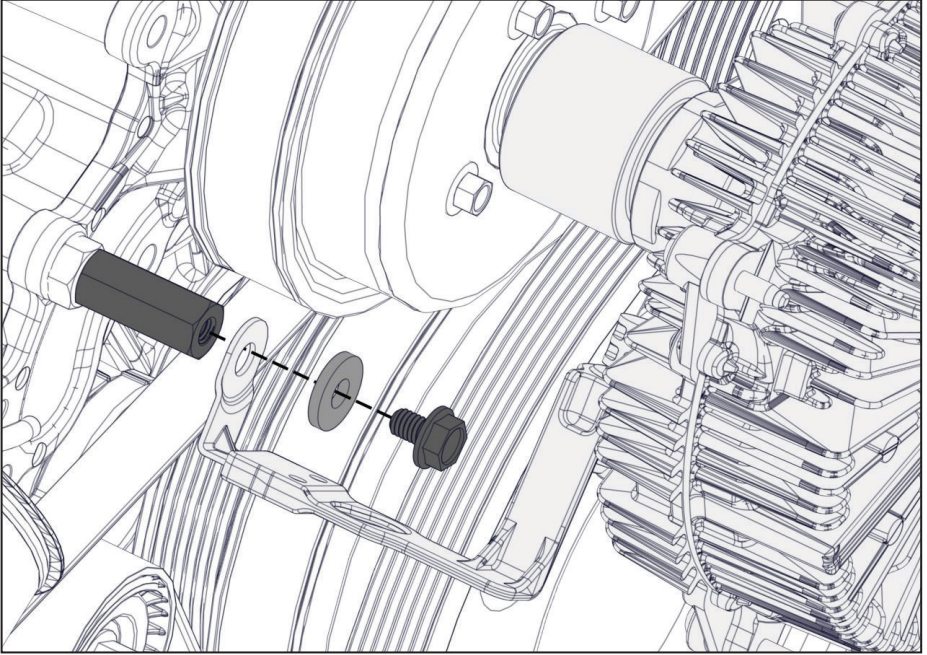

Figure 43 — Install fan harness spacer
- ☐ Install the fan harness spacer (Figure 43).